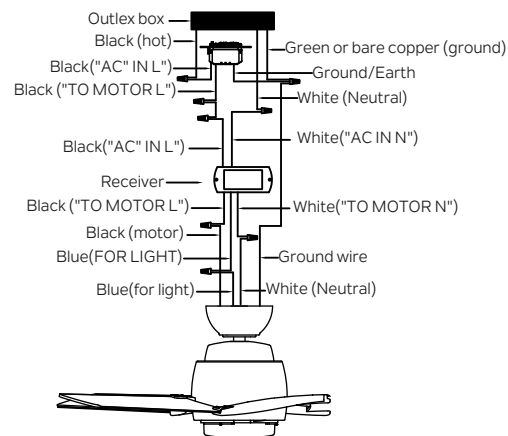

Fig. 14
Step 2. Motor to Receiver Electrical Connections: Connect the BLACK wire from the fan to BLACK wire marked "TO MOTOR L" from the receiver. Connect the WHITE wire from the fan to the WHITE wire marked "TO MOTOR N" from the receiver. Connect the BLUE wire from the fan to the BLUE wire marked "FOR LIGHT " from the receiver. Secure all the wire connections with the plastic wire connectors provided. (Fig. 14)
Step 3. Remote Receiver to Outlet Box Electrical Connections: Connect the BLACK (hot) wire from the ceiling to the BLACK wire marked "AC in L" from the wall control . Connect the WHITE (Neutral) wire from the ceiling to the WHITE wire marked " AC in N" from the receiver. Connect the BLACK (To Motor L) wire from the wall control to the BLACK wire marked " AC in L" from the receiver. Secure the wire connections with the plastic wire connectors provided .(Fig. 14)
Step 4. If your outlet box has a ground wire (green or bare copper) connect it to the fan ground wires : otherwise connect the fan ground wire to the mounting bracket. Secure the wire connection with a plastic nut provided. After connecting the wires, spread them apart so that the green and white wires are on one side of the outlet box and black and blue wires are on the other side. (Fig. 14)